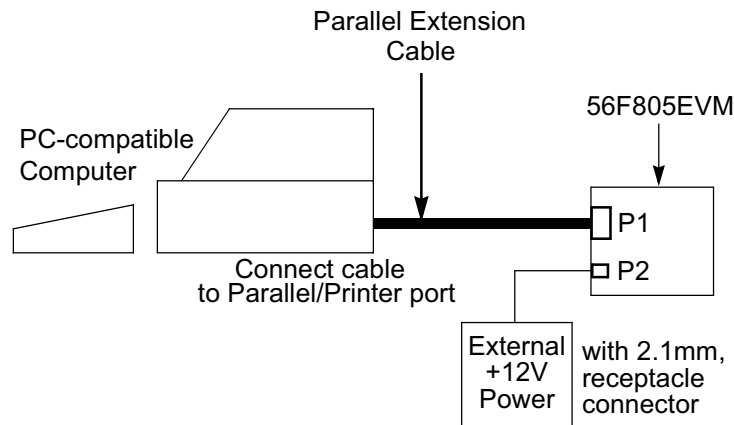

Figure 1-3. Connecting the 56F805EVM Cables
An interconnection diagram is shown in Figure 1-3 for connecting the PC and the external +12V DC power supply to the 56F805EVM board.
2. Connect the other end of the parallel extension cable to P1, shown in **Figure 1-3**, on the 56F805EVM board. This provides the connection which allows the host computer to control the board.
4. Connect the 2.1mm output power plug from the external power supply into P2, shown in **Figure 1-3**, on the 56F805EVM board